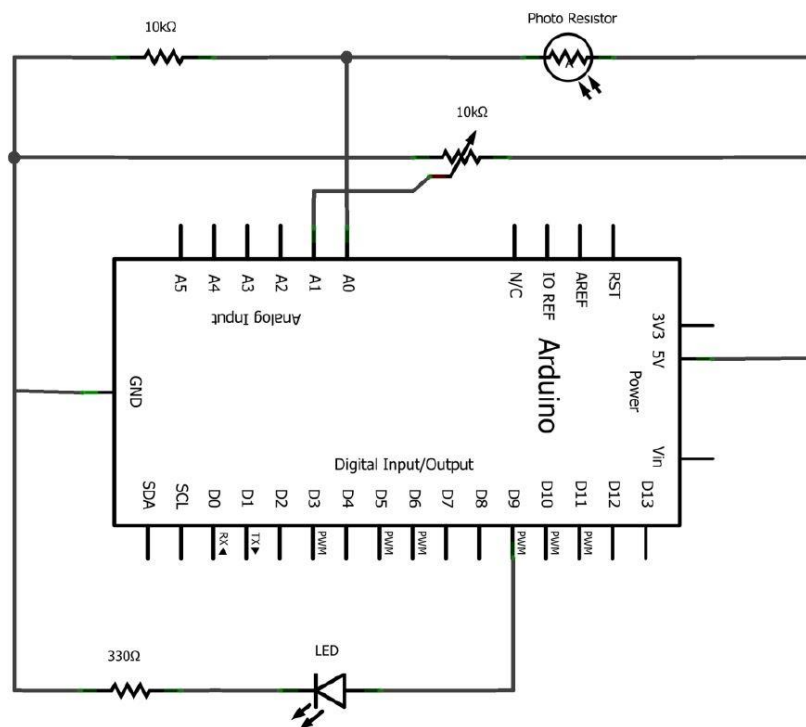

Fig 7 Circuit diagram
- Brightness of the LED as a speed. The circuit is shown in figure 7